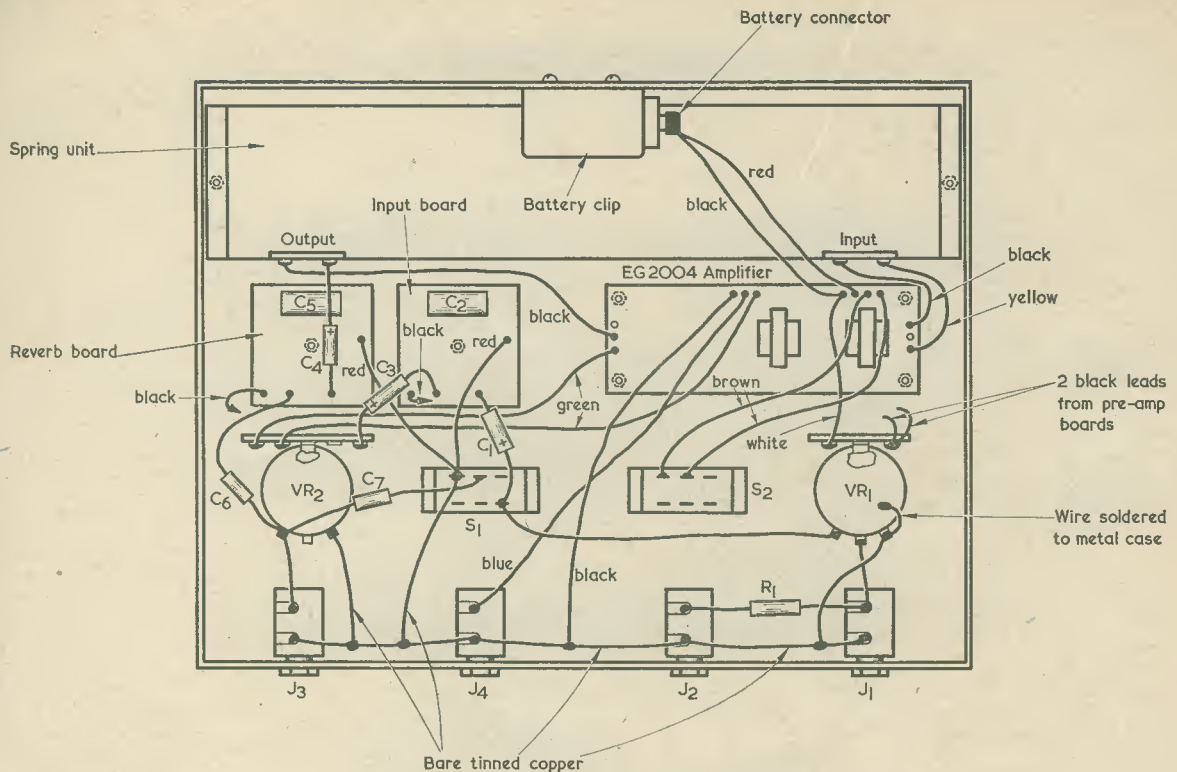

Fig. 3. Main assembly and wiring diagram
1. Commence by trimming $\frac{1}{8}$ in. off each end of the reverberation spring unit base so that it will fit into the instrument case under the top panel surface in the position shown in Fig. 3. Only a very small amount of metal needs to be removed.
3. Using 6BA screws and nuts, fit the reverberation spring unit in the case, with its input and output terminals taking up the positions shown in Fig. 3. It will be helpful to use long screws (around $\frac{3}{8}$ in.) for this operation. It should be mentioned at this stage that it is preferable that plain washers be fitted under all screw heads in this and later steps, together with shake-proof washers under the nuts.
6. After having first cut off their locating lugs, fit the two potentiometers, VR1 and VR2, so that their tags point towards the jack socket panel. See Fig. 3.
8. Using bare tinned copper wire, connect together the earthy end of VR2 track (See Fig. 3) and the bus bar.
9. Using bare tinned copper wire, connect together the metal case of VR1, the earthy end of its track (see Fig. 3) and the bus bar.
13. Using four 6BA screws and nuts, mount the EG2004 amplifier with the orientation shown in Fig. 3. Support it at each corner with a rubber washer made by cutting a grommet in half. Each of these washers passes over the 6BA screw between the plastic sheet and the copper side of the board. The washers prevent distortion of the board when the screws are tightened. Do not over-tighten the screws.
14. Following Fig. 3, connect the following leads from the EG2004 amplifier, shortening as necessary. Blue lead to the rear tag of jack socket J4, two brown leads to switch S1, and output leads (black and yellow) to the input terminals of the spring unit.
16. Returning to Fig. 3, fit R1 between J1 and J2 rear tags. Then, using flexible p.v.c. wire, connect J1 rear tag to the slider of volume control VR1. Press down the jack socket tags before soldering, to prevent them touching the baseplate when it is fitted later.
17. Also as in Fig. 3, and shortening as necessary, connect one black lead from the EG2004 amplifier to the earth bus bar. Connect the other black lead from
19. Following Fig. 3, and shortening as necessary, connect the white lead (repositioned in Step 11) from the EG2004 amplifier to the 3-way tagstrip.